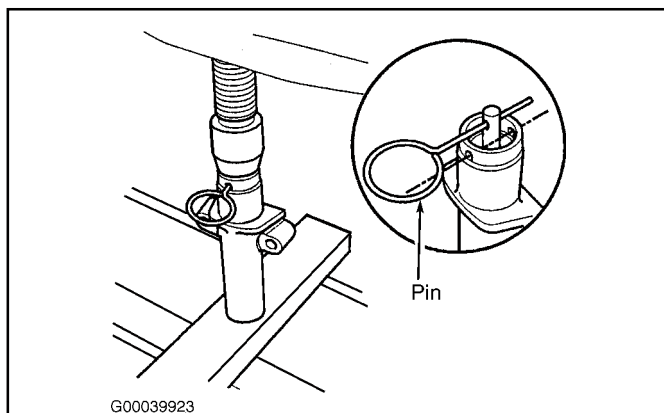

Fig. 5: Compressing Auto-Tensioner (2000-01 Odyssey)
- On 2000-01 models with sealed auto-tensioner, place tensioner in press. SLOWLY compress tensioner until pin can be inserted through tensioner body and insert pin. See Fig. 5. Install auto-tensioner onto engine.